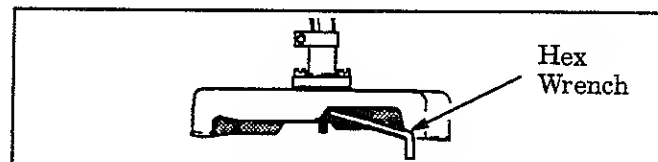

Figure 7
9. Insert the large hex wrench (provided) into the aligned holes to keep the arbor shaft from turning. Figure 7.